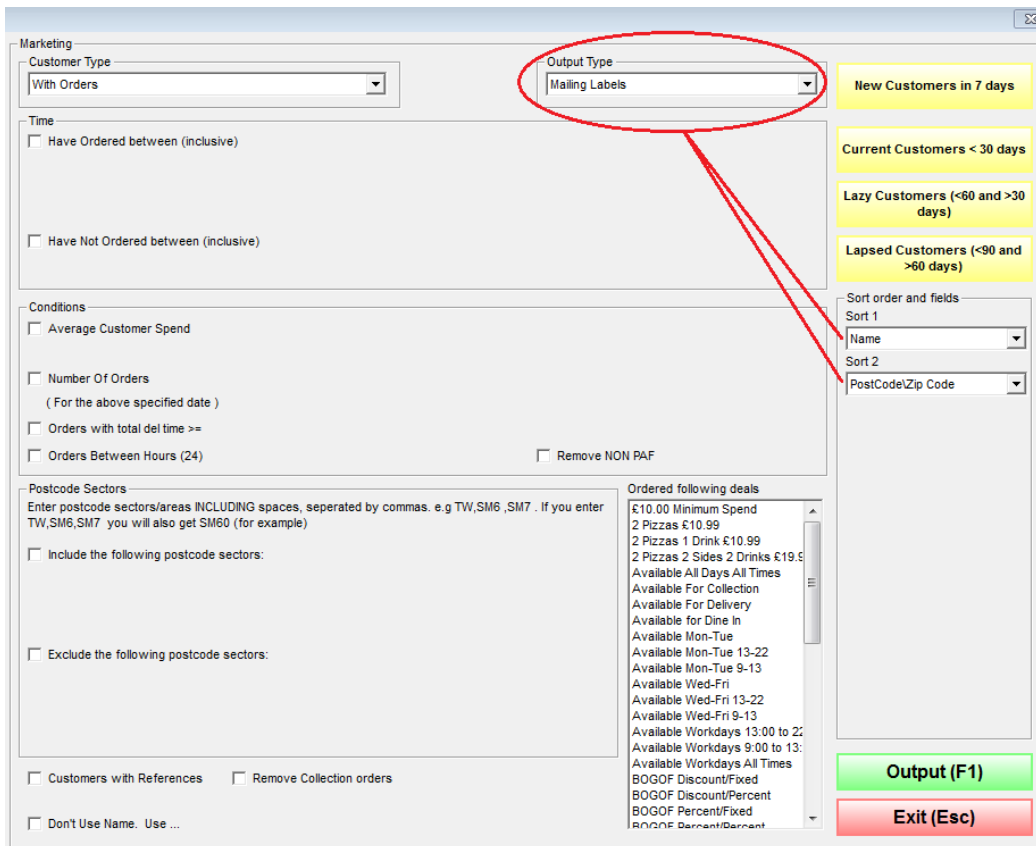

Figure 136: The Sort Order fields
- 'Post Code' from the **Sort 2 field**, as shown in Fig. 136.